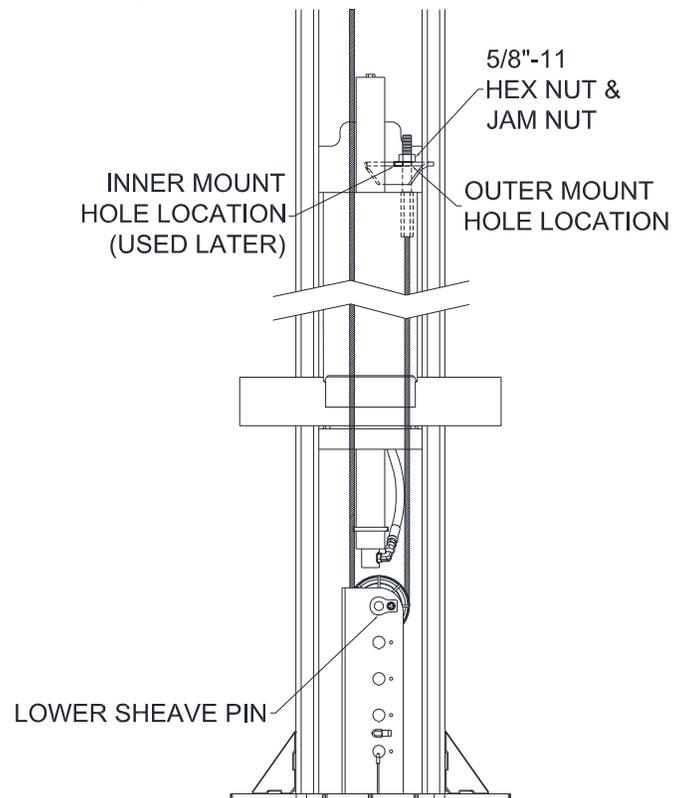
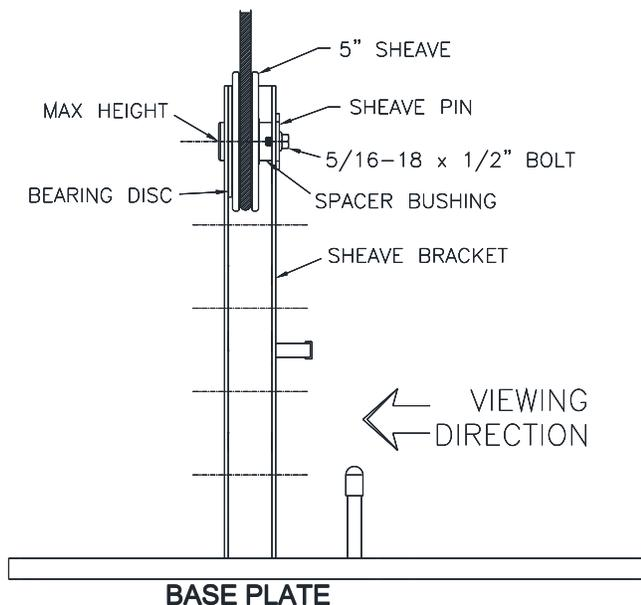

Fig. 2 – Cable Routing LAYOUT
Fig. 4 – Sheave Assembly and Cable Routing
- Remove hex bolt and sheave pin from sheave bracket, **Fig. 2**.
- Route cables as shown in **Fig. 2** and **Fig. 4**. Ensure cables do not wrap around hoses during routing.